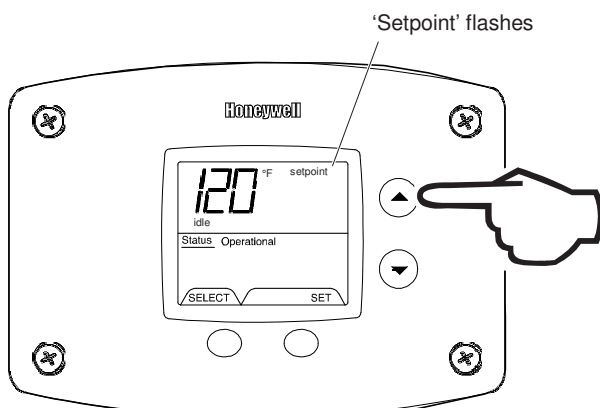

Fig. 50
3. To raise the temperature setpoint, press the 'Temperature Up' button until the desired temperature is shown on the water heater display (Fig. 50).